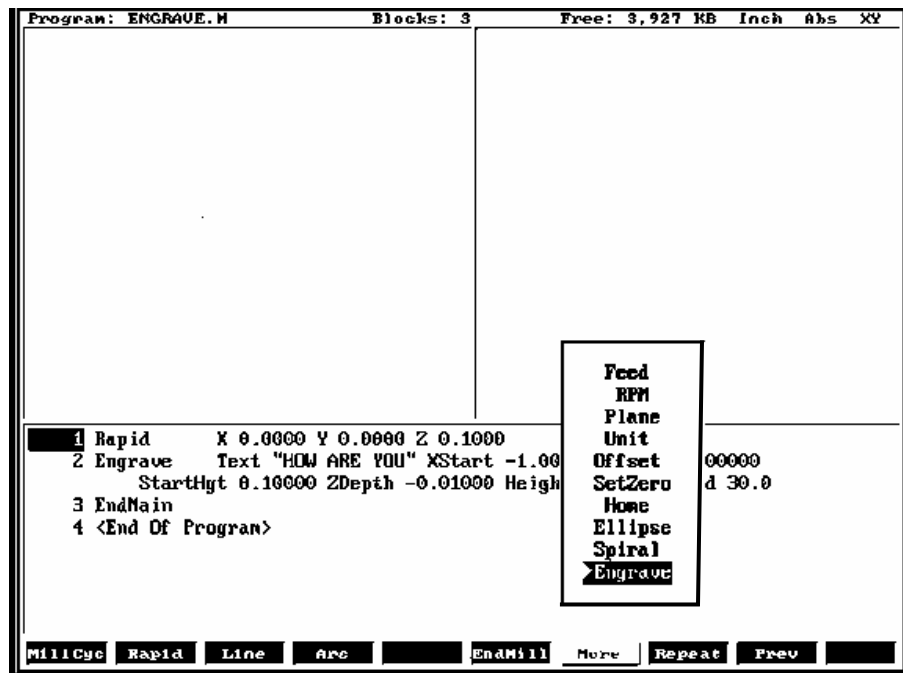
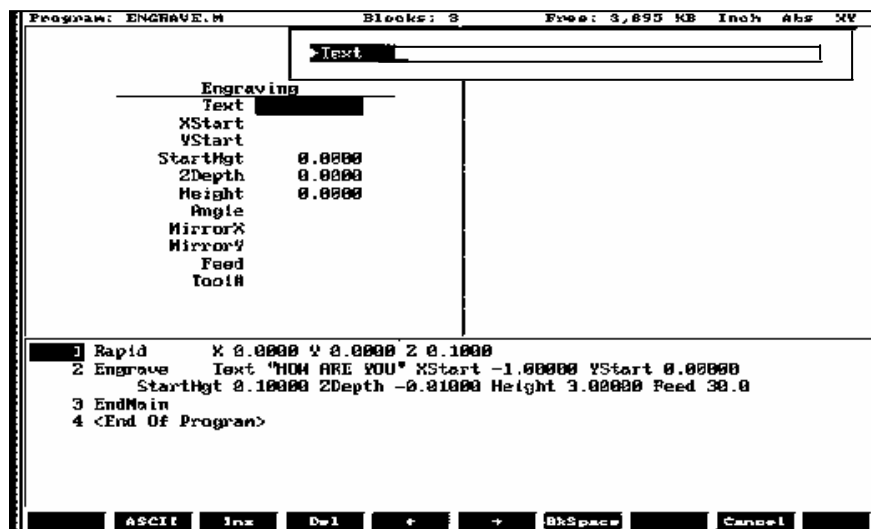

Figure 4-52, More Pop-up Menu
Figure 4-53, Engraving Cycle Screen
1. In Edit mode, press **Mill (F5)** and **More (F7)** to display the More pop-up menu, **Figure 4-52**. Highlight **Engrave** and press **ENTER** to display the Engraving Cycle screen, Figure 4-53, Engraving Cycle Screen.